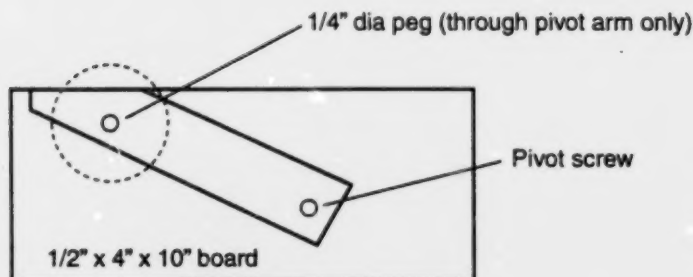

Figure 26 - Sanding Fixture
19. Using fly cutter or hole saw, cut from 1/8" hardboard six circles approximately 3" in diameter, three circles with 1/8" smaller diameter, one circle 2" in diameter, and one circle 1 7/8" in diameter. Make fixture shown in Figure 26 and clamp to disc sander table. Place circles on peg and then use pivot arm to control circle and sand round.